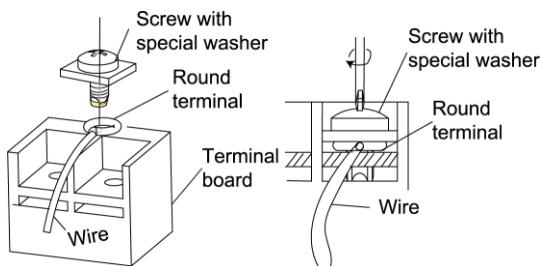

Fig. 4.27
- 4). Position the round terminal wire, and replace and tighten the terminal screw with a screwdriver (Fig. 4.27).